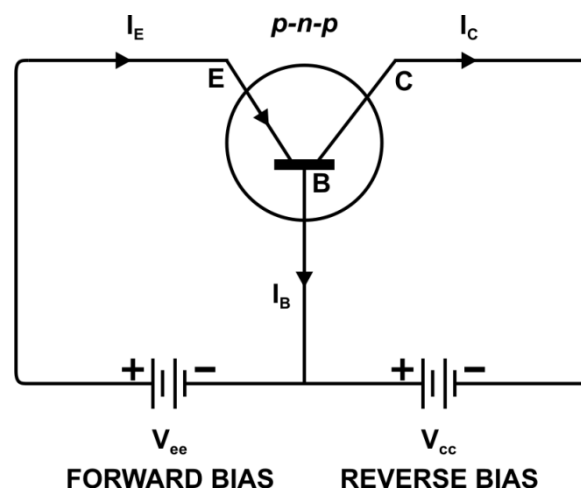

Fig. 2.4 Action of p-n-p transistor
- The p-type emitter of a p-n-p transistor is forward biased by connecting it to positive pole of emitter-base battery V_{ee} and the p-type collector is reverse biased by connecting it to the negative pole of the collector-base battery V_{cc} as shown in Fig. 2.4